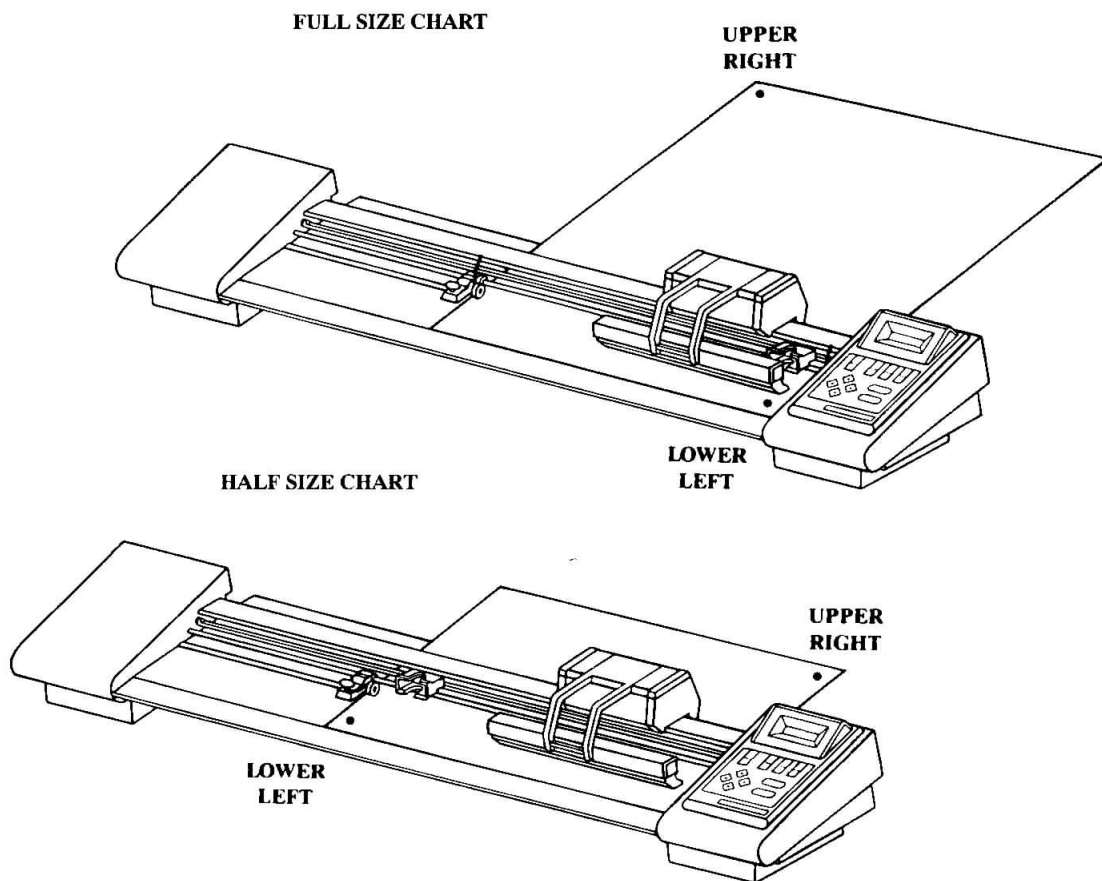

FIGURE 8-4. LOWER LEFT AND UPPER RIGHT POINTS
The subpart of a plot design selected for plotting is called a clip. A clip is created by specifying an imaginary rectangle around a subpart using two corner points, called the lower left (LL) and the upper right (UR). Figure 8-4 shows the default locations of these points, which vary with chart orientation. The sides of the imaginary rectangle are called clip limits. Only the plot codes within the specified clip limits are plotted when the plotting program is run. Thus, only the subpart, or clip, appears on the chart.
If you want a plot at a larger or smaller size, or with a different height-to-width ratio (aspect) for a special visual effect, you can specify these changes with the scale function. Like the clip, a scale box is an imaginary rectangle specified by two points called the lower left (LL) and the upper right (UR). Figure 8-4 shows the locations of these points, which vary with chart orientation. The sides of the imaginary rectangle are called scale box limits. If a clip box is set, the scale box is set to the same size to maintain the clip size.